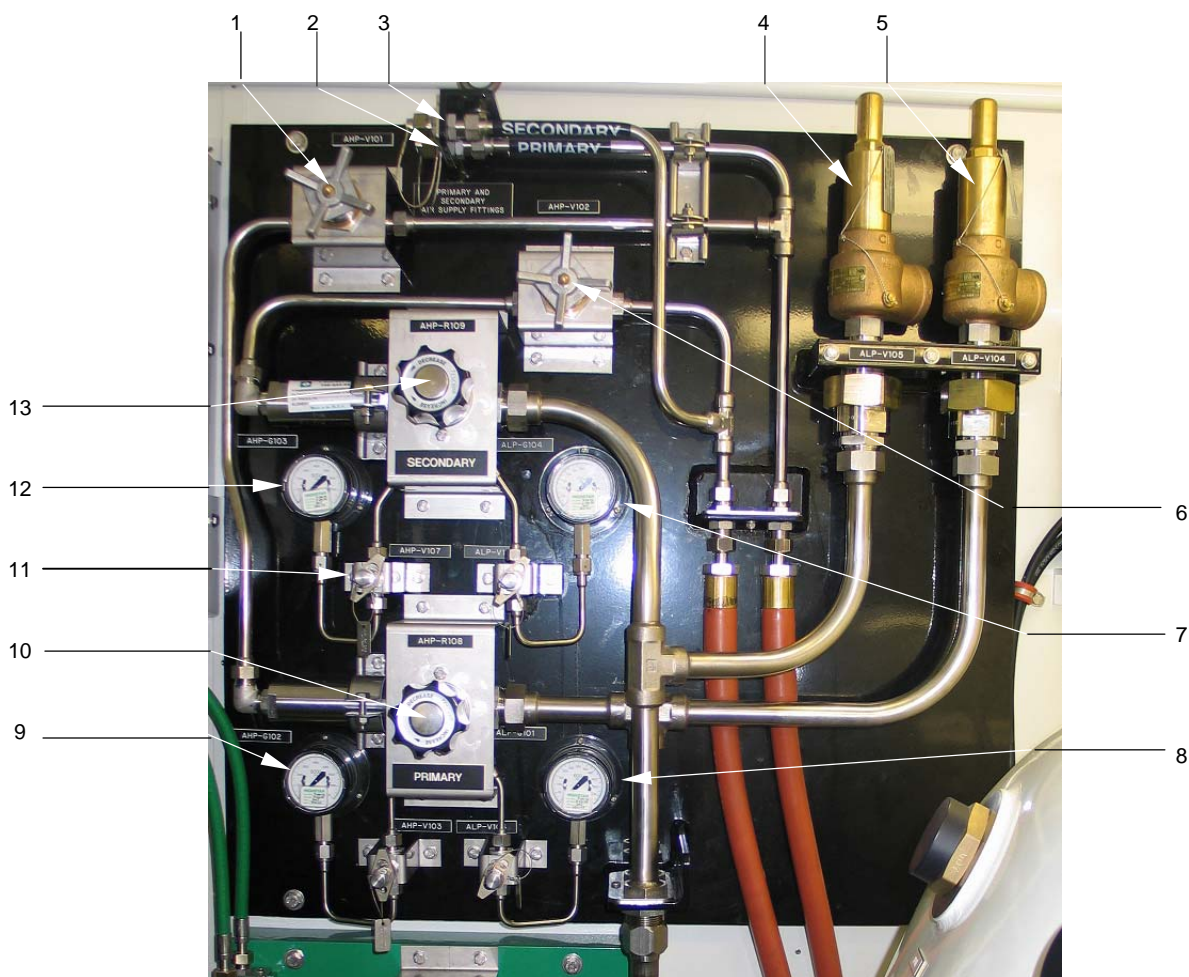

Figure 3-13. HP Air Reducing Station
**3-2.6.2 HP Air Reducing Station.** The HP Air Reducing Station (see Figure 3-13) allows monitoring and regulation of primary and secondary airflow to the chamber. The HP Air Reducing Station is equipped with a hand-loaded primary air regulator (AHP-R-108) and a hand-loaded secondary air regulator (AHP-R-109).
**3-2.6.2.1 Primary and Secondary HP Air Supply Valves.** These 1/2" globe valves are used to isolate the primary and secondary HP air sources from the HP Air Reducing Station. In Figure 3-13, item 1 (AHP-V-101) is the Primary HP Air Supply Valve and item 6 (AHP-V-102) is the Secondary HP Air Supply Valve.
**3-2.6.2.2 Primary and Secondary HP Air Connectors.** The HP air connectors are compression style HP air fittings. They connect incoming HP air from the Fly Away Dive System (FADS) III ASRA to the HP Air Reducing Station. In Figure 3-13, item 2 is the Primary HP Air Connector and item 3 is the Secondary HP Air Connector.
**3-2.6.2.3 Primary and Secondary LP Air Relief Valves.** The relief valves open to relieve a HP condition at the outlet of the HP Air Reducing Station. HP air relieved from these valves is vented to the area surrounding the valve. In Figure 3-13, item 5 (ALP-V-104) is the Primary LP Air Relief Valve and item 4 (ALP-V-105) is the Secondary LP Air Relief Valve.
**3-2.6.2.5 Primary and Secondary HP Air Supply Gauges.** These gauges indicate the pressure at the inlet side of the HP air regulator valves. These gauges will reflect the pressure at the FADS III air bank or other supply system during operation of the recompression chamber. In Figure 3-13, item 9 (AHP-G-102) is the Primary HP Air Supply Gauge and item 12 (AHP-G-103) is the Secondary HP Air Supply Gauge.
**3-2.6.2.6 Primary and Secondary HP Air Regulators.** The air pressure regulators are spring-loaded, diaphragm-controlled, air pressure control devices. Once set, the regulator will maintain a constant outlet pressure over a wide range of inlet pressures and outlet flow rates. In Figure 3-13, item 10 (AHP-R-108) is the Primary HP Air Regulator and item 13 (AHP-R-109) is the Secondary HP Air Regulator.
**3-2.6.2.7 HP Air Reducing Station Gauge Isolation Valves.** The gauge isolation valves are mounted in the supply piping to each gauge in the system. These valves are designed to act as stop valves or as test fittings to allow for testing the gauge in place. In Figure 3-13, item 11, the Secondary HP Air Gauge Isolation Valve (AHP-V-107), is a representative example. See Figure 2-6 for the names and locations of all HP Air Reducing Station gauge isolation valves.